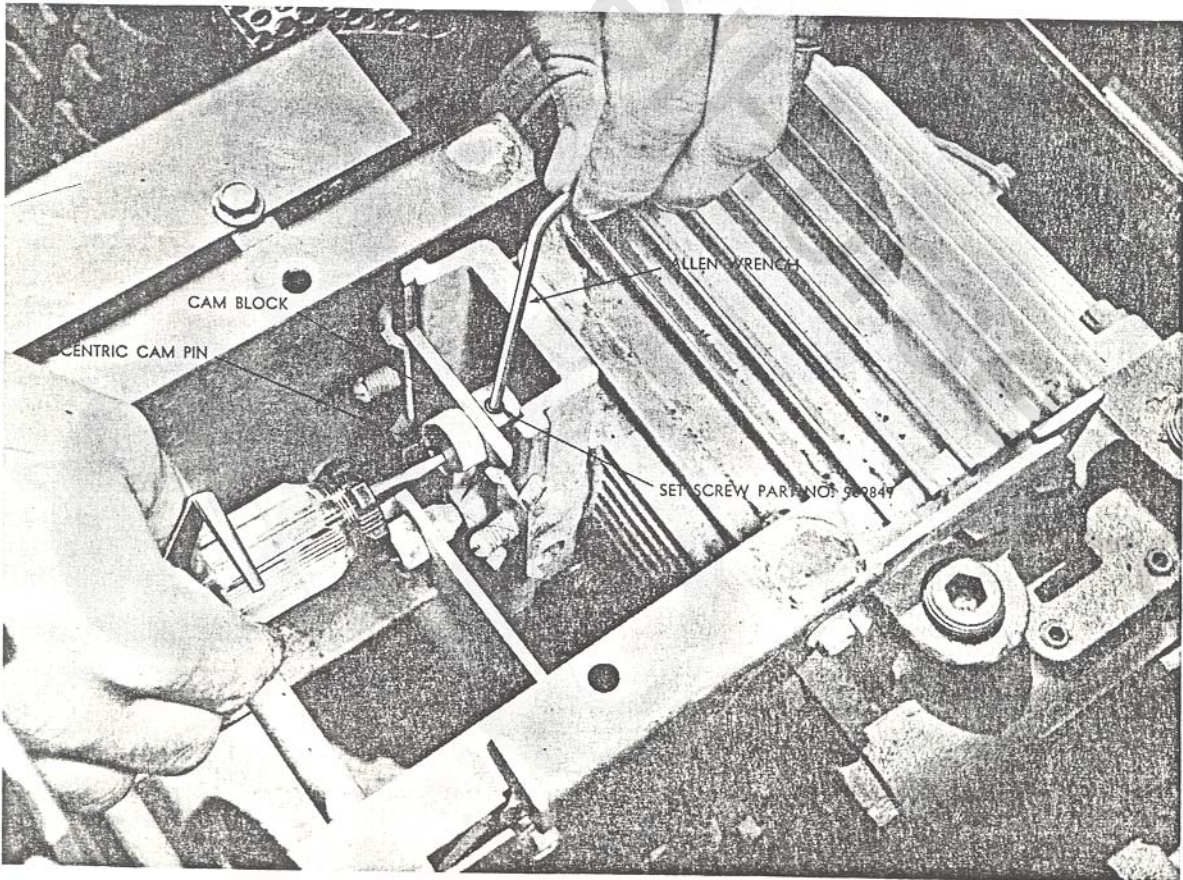

Figure 2
The control handle is friction loaded so it will hold at any desired speed. If the handle does not stay where it is set during operation, the friction may be increased by tightening the two screws that put pressure on the nylon cam (see Figure 2). **CAUTION.** Too much friction will cause excessive wearing of cam and cam block. **Do Not Lubricate Nylon Cam.**
B. To make neutral adjustment (See Figure 2).
3. Loosen set screw in arm with allen wrench (See Figure 2).